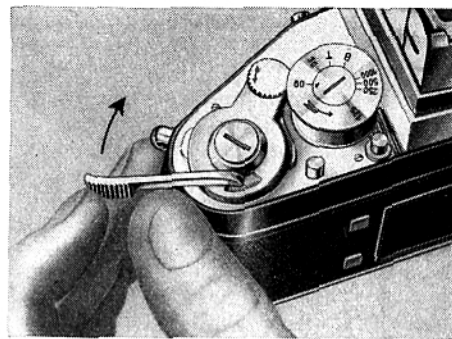

Fig. 6
The shutter is tensioned and the film wound on by operating the rapid-wind lever (8). This lever should always be swung right up to its stop (Fig. 6) and will then spring back of its own accord. It is impossible to release the shutter before it has been tensioned fully and the film wound on. Neither can the film be wound on until the shutter has been released; it will not be possible to operate the shutter release when the rapid-wind lever (8) is at an intermediate point of its travel. Never force the rapid-wind lever back to its rest position or the mechanism will be damaged. Should the